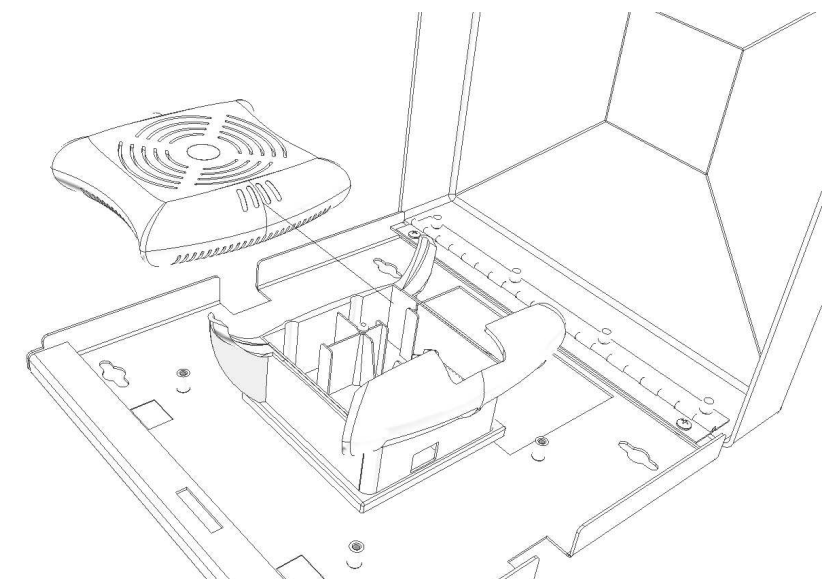

Figure 3 – Aruba Networks AP105 Installation
Step 3 – Slide Aruba Networks AP105 into the mounting bracket until it is secured (Ref. Figure 3).